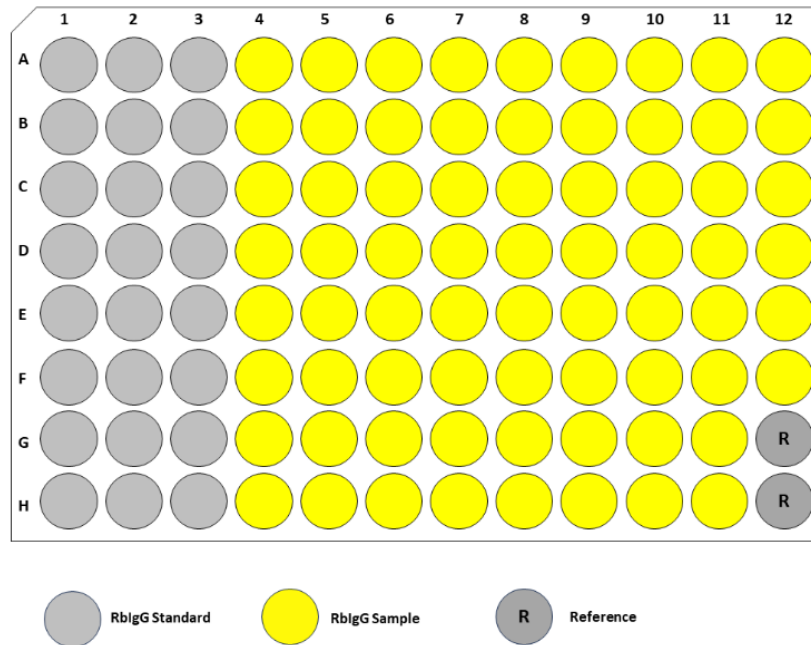

Figure 6: Example plate layout for a routine quantitation assay run in a 96-Well microplate.
2. Set up a basic quantitation assay using the parameters described previously in the optimization experiments. See Figure 6 for example assay set up.